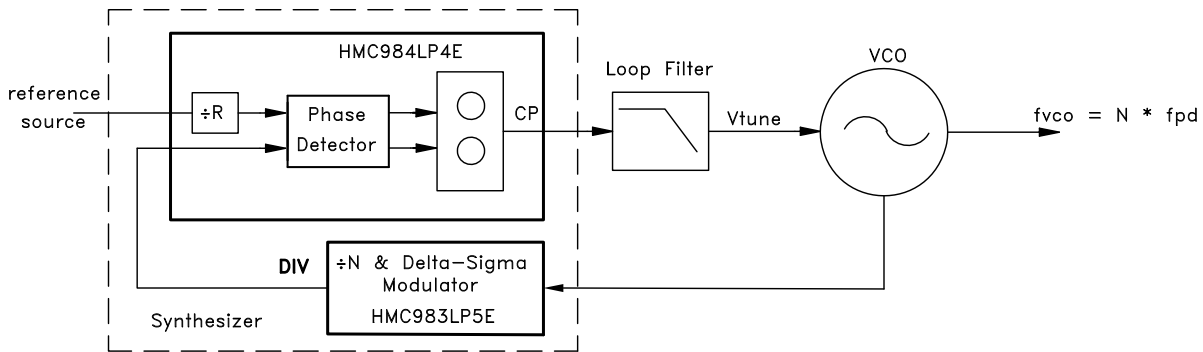

Figure 25. Typical Application of HMC984LP4E with HMC983LP5E to Form a Frequency Synthesizer
Primary target application of the HMC984LP4E is to be used with the HMC983LP5E as shown in Figure 25. Together these two components form a high performance, low noise, ultra low spurious emissions fractional-N frequency synthesizer. The two components are separated in order to maximize isolation between them, and minimize common distortion and modulation by-products that exist in all PLLs. Careful IC design and increased isolation between the two components result in high performance , high spectral efficiency PLL, with extremely low spurious emissions.
These four values help to visualize the main contributors to phase noise in the closed loop PLL. Each falls on a linear line on the log-frequency phase noise plot shown in Figure 25.
As shown in Figure 25, the HMC984LP4E features an ultra-low noise digital differential Phase Detector (PD) with two differential inputs. One input comes from the reference path divider and the other from VCO path divider. The reference input is internal to HMC984LP4E whereas the divided VCO input is external. The output from the PD is fed to the charge pump in HMC984LP4E which converts the PD digital output to a current with programmable gain. The output of the CP is directly proportional to the phase difference between the divided reference and the VCO path signals.
The input of PD is a differential current-input. The input interface configurations are shown in Figure 25 and Figure 25. The HMC984LP4E is designed to work with its companion divider part, the HMC983LP5E, that provides an open collector output. The inputs are internally pulled up to VCCPD with on-chip 50 Ω resistors. Thus, any open collector buffer can drive the PD inputs. A minimum of 750 mVpp single-ended level is needed to drive the PD inputs.